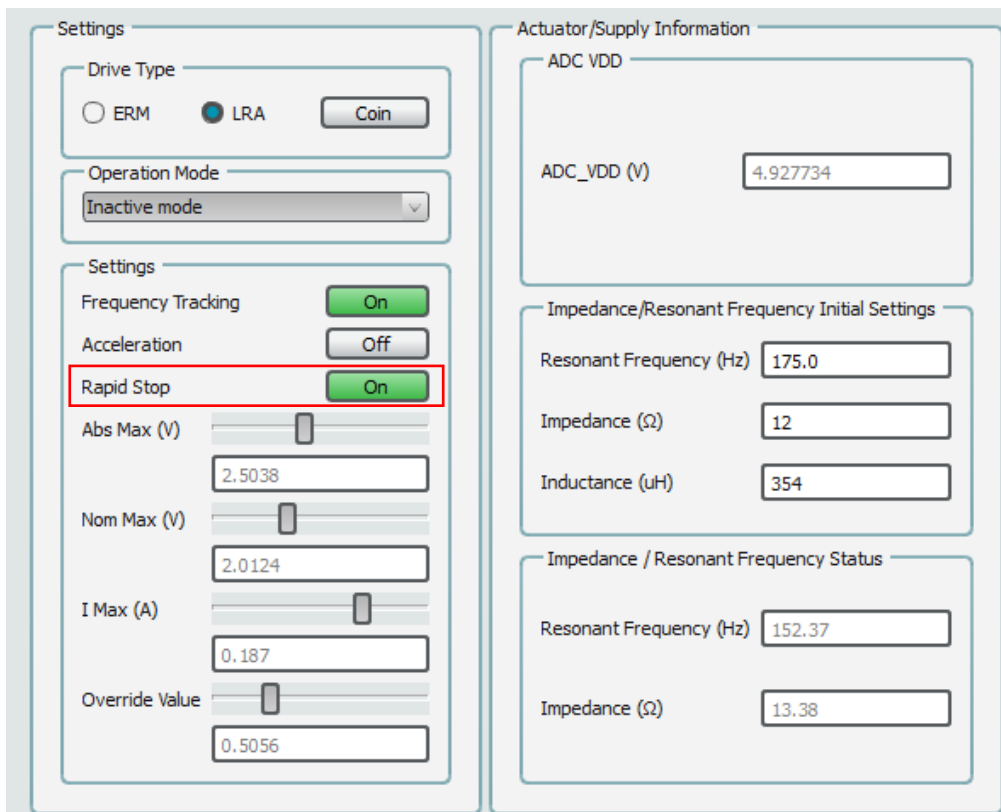

Figure 23: Enabling Rapid Stop in SmartCanvas DA728x GUI
1. Enable **Rapid Stop** in the SmartCanvas DA728x GUI (Figure 23).